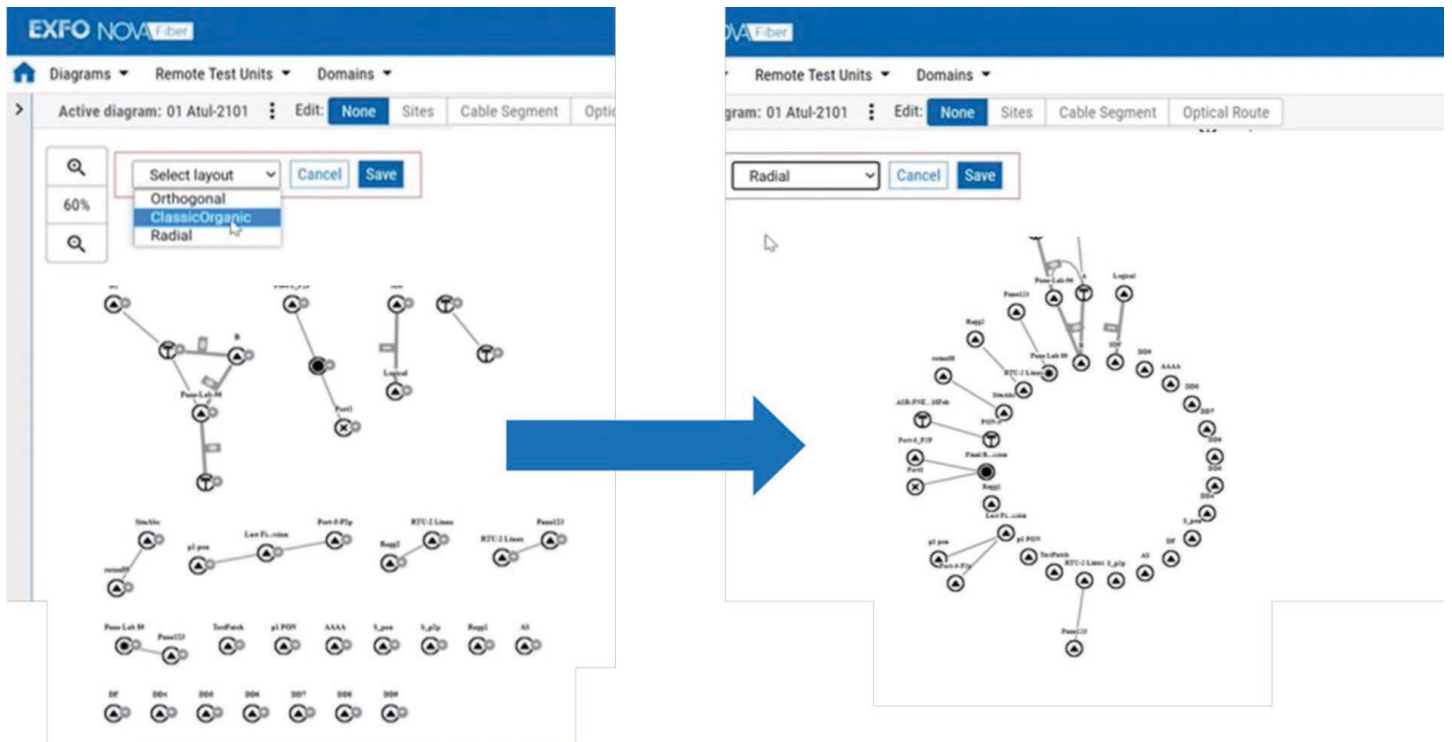

Figure 24: Organizing elements of a diagram in radial view within a single action
- Support diagrams to scale from monitoring few critical sites to countrywide topologies. A diagram regroups a customer-defined batch of monitored optical routes together (e.g., a specific region) to allow users to focus only on routes relevant to their needs and navigate from one to another. Optical routes of diagrams can be automatically organized into schematic topological views: Radial view, Organic view, Orthogonal view (Figure 24)